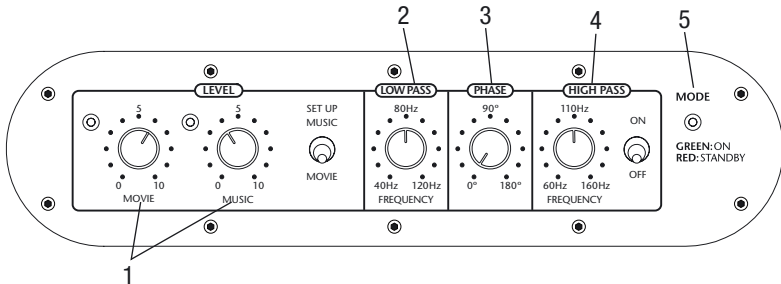

Figure 3. The Pro15SW's front panel contains the subwoofer's operation controls.
The Pro15SW's operation controls are located on the unit's front panel, as shown in **Figure 3**. They function as follows:
- 1. MUSIC/MOVIE LEVEL and SETUP Controls:** While listening to music, move **SETUP** switch to **MUSIC** and adjust the **MUSIC LEVEL** control to set the desired bass level. Similarly, while listening to a movie, move **SETUP** to **MOVIE** and adjust the **MOVIE LEVEL** control to set the desired bass level. Each level control includes an accompanying LED indicator to identify which one is currently active as triggered by your home theater sound processor or receiver (see **Figure 3** on page 7). Also see **SETTING UP THE PRO15SW** on page 15.
- 4. HIGH PASS Frequency adjustment with ON/OFF switch:** Use the **HIGH PASS** control to set the high-pass crossover frequency from 60 to 160 Hz (according to your loudspeaker manufacturer's recommendation) to drive a satellite loudspeaker system amplifier from the line-level **AUDIO OUT** jacks (also see **Figure 3** on page 7.) To activate the filtered signals, set the **ON/OFF** switch to **ON**.
- 5. The MODE indicator (on the far right) shows which power mode is active, as set by the (Auto) POWER switch (see Figure 3 on page 7): Green is ON; Red is STANDBY.**
NOTE: ON THE FRONT PANEL IF SETUP (SEE **FIGURE 3** ON PAGE **7**) SWITCH IS SET TO MUSIC, A 3 TO 30 VDC (OR VAC) TRIGGER SIGNAL WILL CHANGE OPERATION OVER TO THE MOVIE MODE. IF THE SETUP SWITCH IS ALREADY SET TO MOVIE, A TRIGGER SIGNAL HAS NO EFFECT, SINCE THE MODE IS ALREADY SET TO MOVIE.